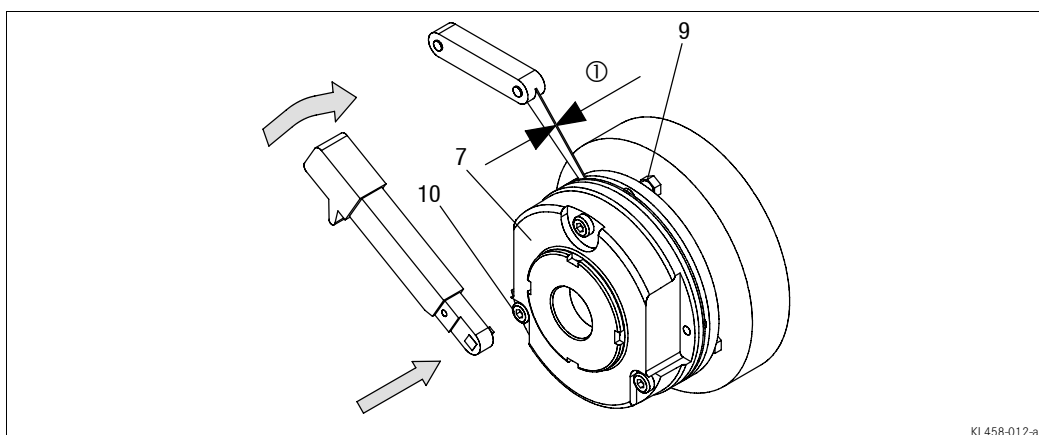

Fig. 8 Torque adjustment
6. Tighten the screws (10) evenly (for torques see table chapter 3.3 and Fig. 8).
7. Check the air gap " $s_{Lürated}$ " near the bolts (10) by means of the thickness gauge (" $s_{Lürated}$ " see table chapter 3.3 and Fig. 8).